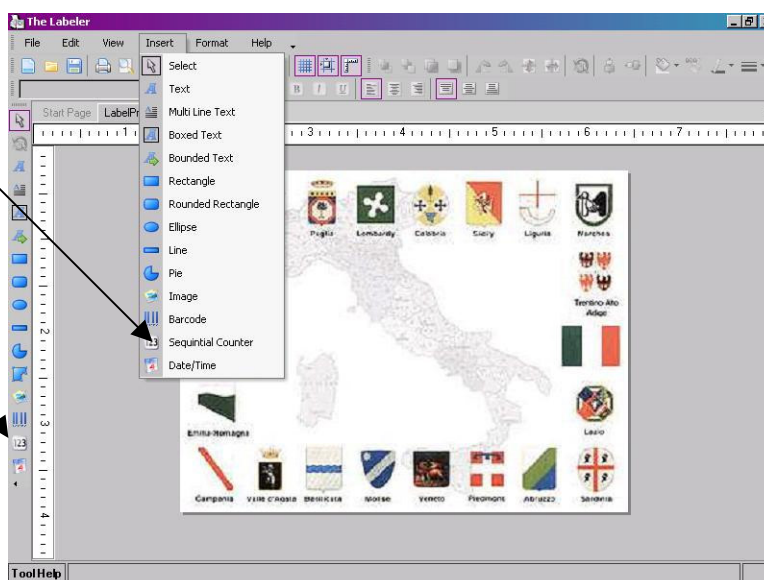

Figure 3.8.1: Selecting Insert a Sequential Counter
1. Click on the sequential counter button located in the toolbar on the left hand side of your screen or you can find it in the insert menu (see Figure 3.8.1).